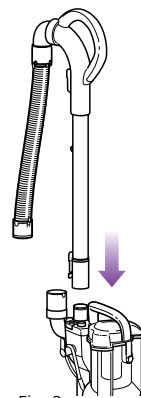

Fig. 2
- 3** Insert the handle with the extension wand into the top of the vacuum until secure. (Fig. 2)